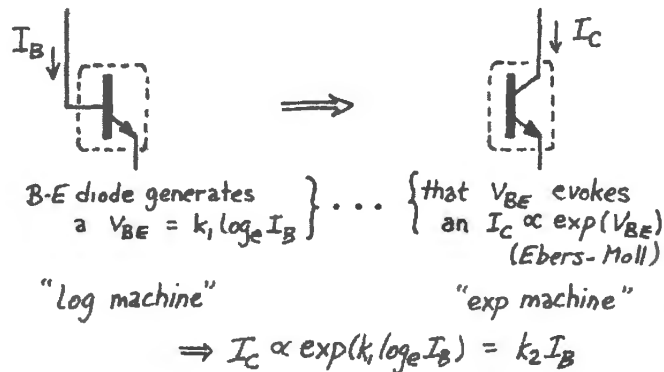

Figure 5N.23 Beta... and Ebers–Moll descriptions of transistor gain reconciled.
- If Fig. 5N.23 does not make you feel better, forget it; you don’t *need* to reconcile the two views if you don’t want to.